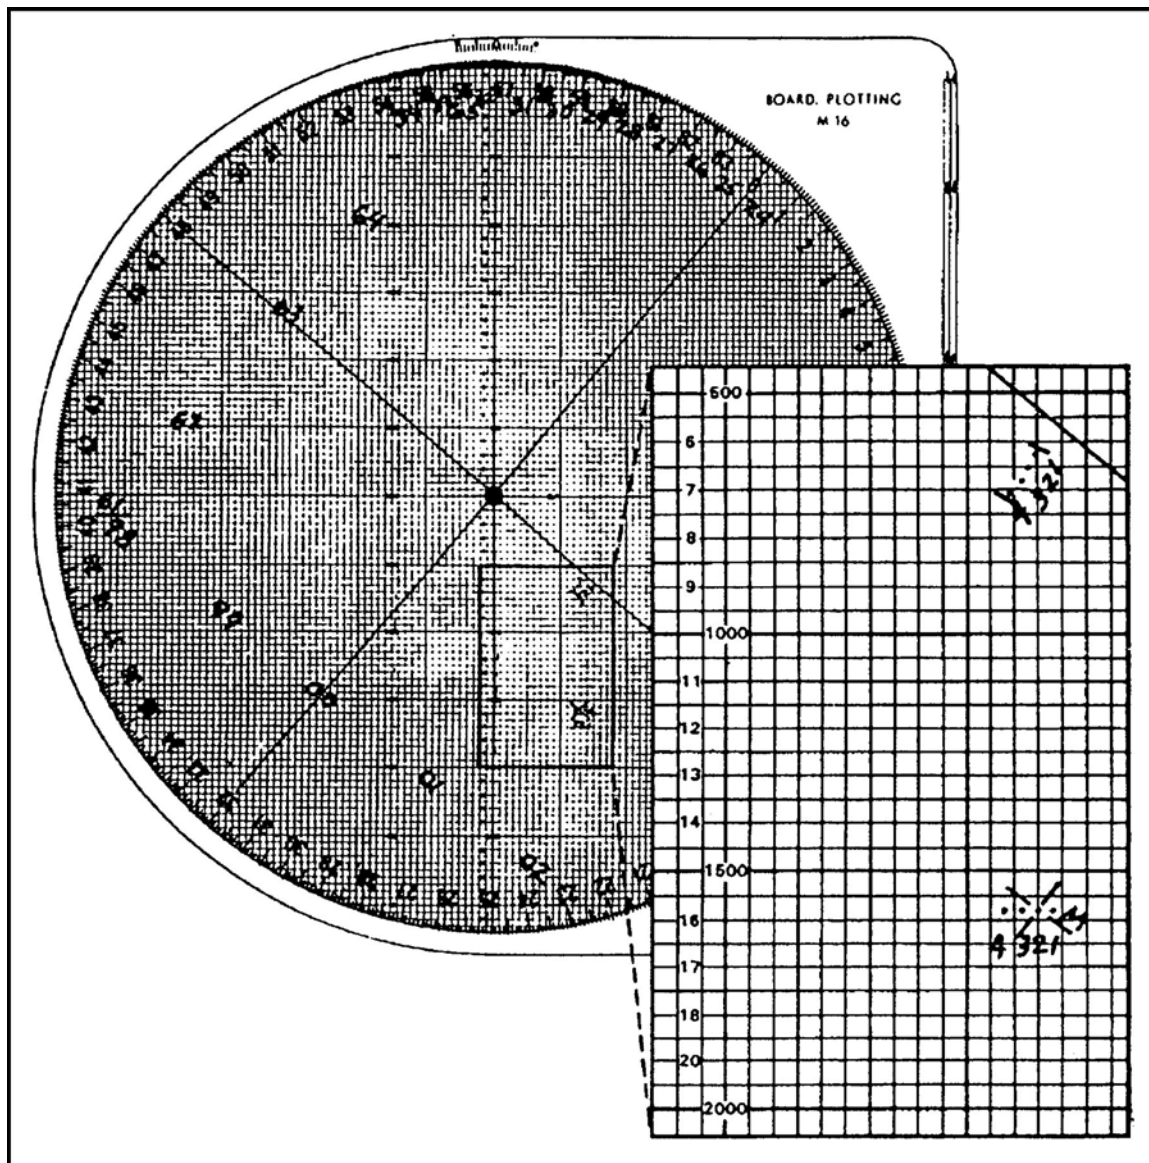

Figure 3. Corrected Firing Data
EXAMPLE: (Figure 3)
- (b) The computer now plots the location of the No. 1, 3, and 4 mortars. Keeping the altitude indexed, the computer goes 40 meters above the plot and makes a small plot; he then goes 40 meters below the first plot and makes another plot, then moves 40 meters below this plot and makes another plot. The computer now has four plots in a row, which represent the impact points of the four mortars on the FPF (Figure 3).
- (e) Using the altitude (direction through the long axis of the mortar position) of the mortar section, indexed at the index mark, the computer again goes 40 meters above, and 40 meters and 80 meters below the plot in the center of the hollow cross marking the mortar position. By rotating the disk back and aligning the FPF and the mortar positions, the computer can easily tell which are the No. 1, 3, and 4 mortar plots and which plot on the FPF is each mortar's impact point (Figure 3).